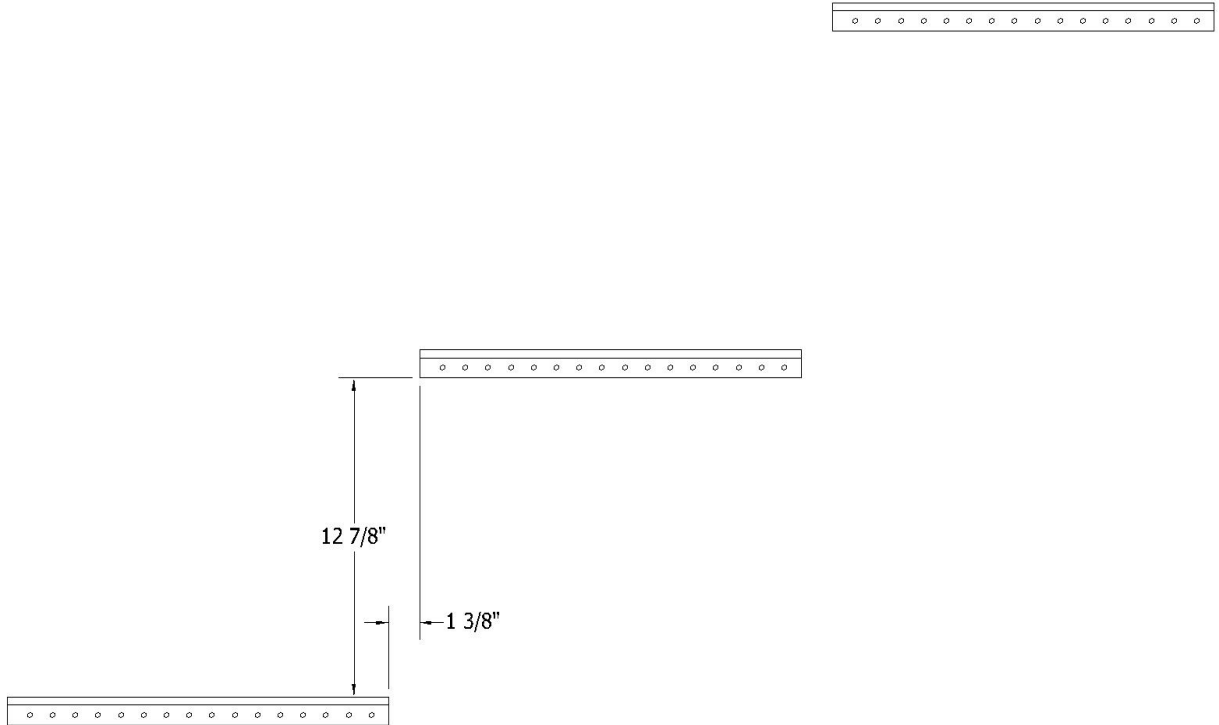

Figure C.2
3. Once the first rail has been installed, continue by attaching the remaining rails in a stairstep pattern. Rails should be $12\text{-}7/8"$ apart vertically and $1\text{-}3/8"$ apart horizontally. (See Fig. C.2) Be sure all rails are level before tightening all hardware.